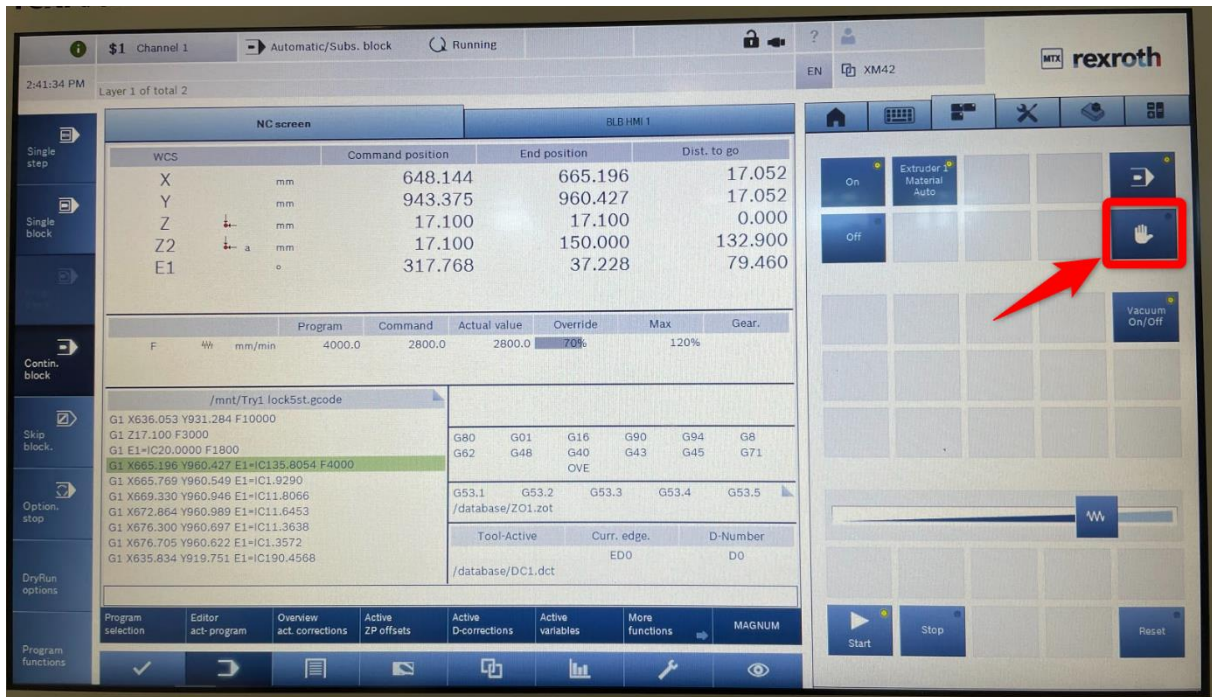

Figure 29
2. Press the hand-symbol to gain access to the buttons for manual steering (fig 29).